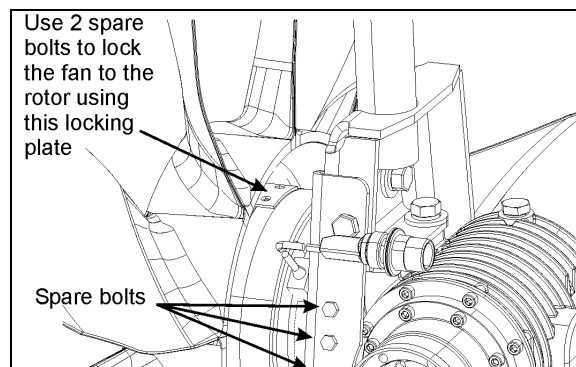

FIGURE 26: MECHANICAL LOCKING
5. Screw in and tighten the spare bolts (Fig. 26).